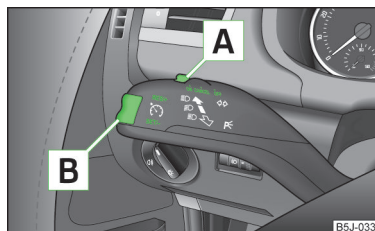

Fig. 119
- Press switch **A** » Fig. 119 to the **ON** position.
- Press rocker button **B** » Fig. 119 on page 122 to the **RES** position.
- The stored speed can be **reduced** by pressing rocker button **B** » Fig. 119 on page 122 to the **SET** position.
The cruise control system can be temporarily switched off by pushing switch **[A]** » Fig. 119 on page 122 to the spring-loaded **CANCEL** position or by depressing the brake or clutch pedal.
- Press switch **[A]** » Fig. 119 on page 122 to the right to the **OFF** position.